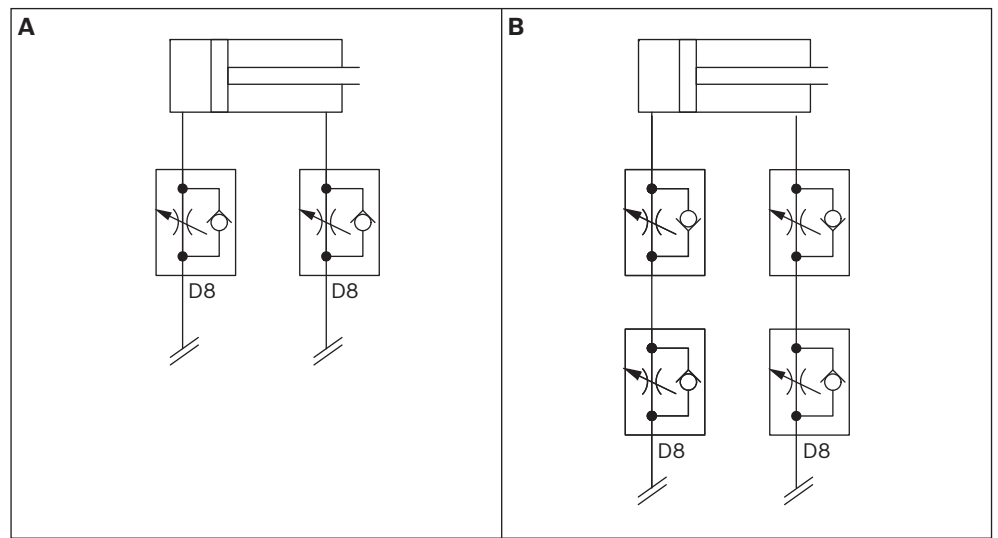

Fig. 9: Pneumatic diagram
- If necessary, adjust the stroke (40 or 90 mm) by moving the damping ring (A).
- To adjust the speed of the lifting or rotary movement, throttle the supply and exhaust air (see also page 21, Fig. 9).